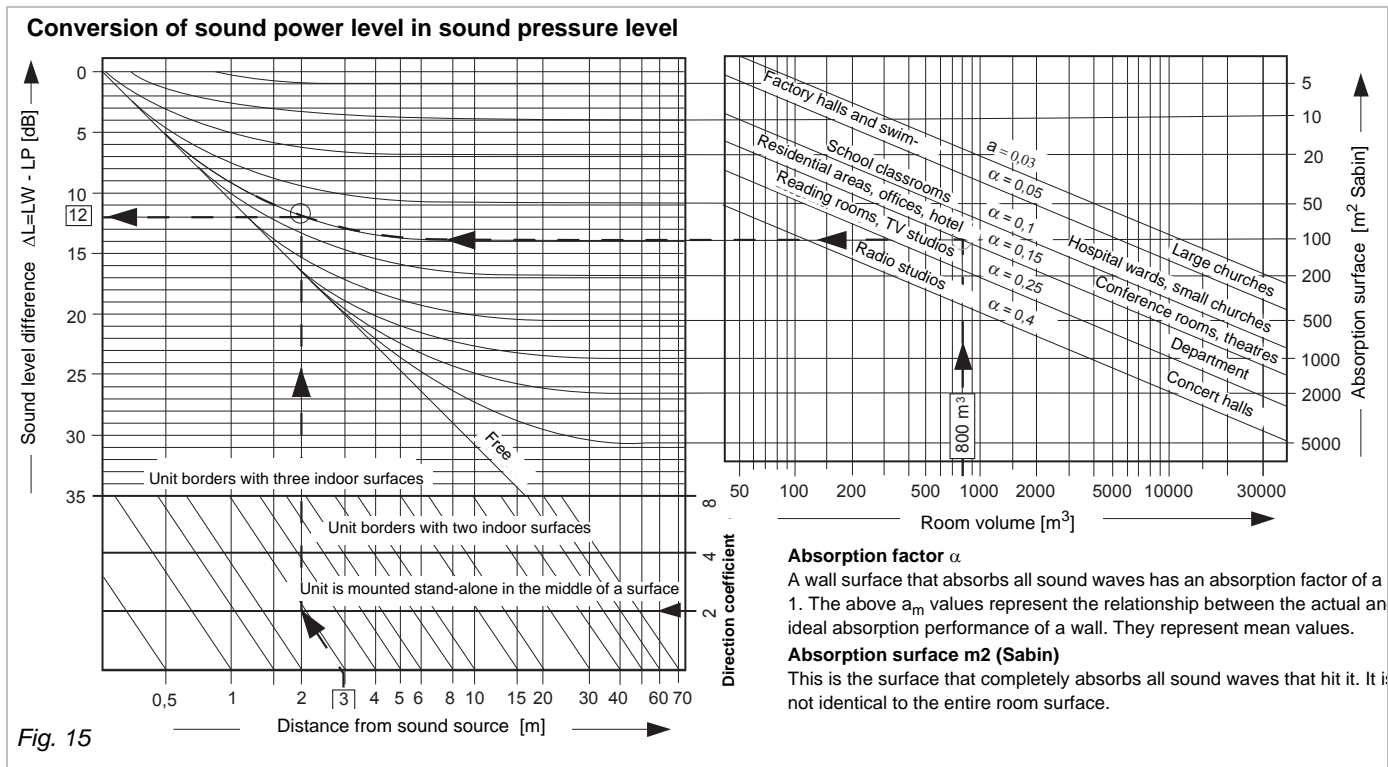
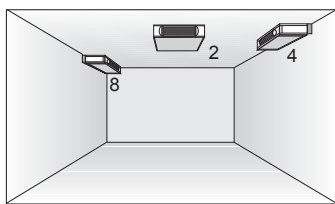

Fig. 15
Fig. 16: Direction coefficient
1. Based on the conference room (800 m³), an absorption surface of approx. **100 m²** Sabin is estimated in accordance with the diagram Fig. 15 "Homes, offices, hotel rooms, conference rooms". 4 units of model size 4 should be selected to provide air volume flow of 1600 m³/h each with a sound level of 39 dB(A) behind the sound attenuator.
2. The mean distance to the duct opening is assumed to be approx. 3 m and the direction coefficient to be "2", Fig. 16. The intersection of the dotted sample lines in the diagram Fig. 15 makes up the sound level difference: $\Delta L \sim 12 \text{ dB}$.